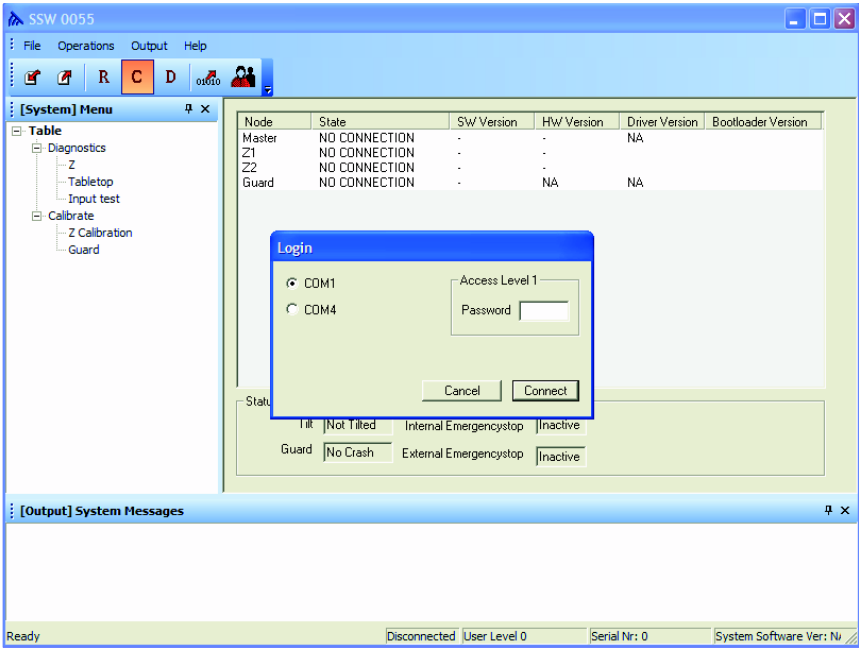

Fig. 4-155 Login
5. Connect the service cable from the lap top (PC) to the serial interface port (COM). (The service cable can be ordered as a spare part).
7. Select COM-port and enter password. See **Fig. 4-155**.
8. Verify that the User Level in **Fig. 4-155**, changes from 0 to 1, when entering the correct password.